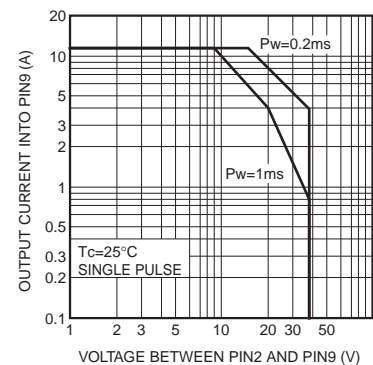

Fig.12 Safety operation range
- (1) No circuit is installed in the modules to protect against excessive output currents. Therefore, take physical safety measures such as using a fuse if short-circuit loading is probable.
- (2) The output current should be reduced according to an increase in the input voltage or ambient temperature. Use the modules within the derating curve range.
- (3) A large rush current may flow in the module when the input voltage is applied or the output ON / OFF is controlled with pin 4 without a capacitor such as C1 in application 4. Operating within the safe operation ranges shown in Fig.12, 15, and 18.